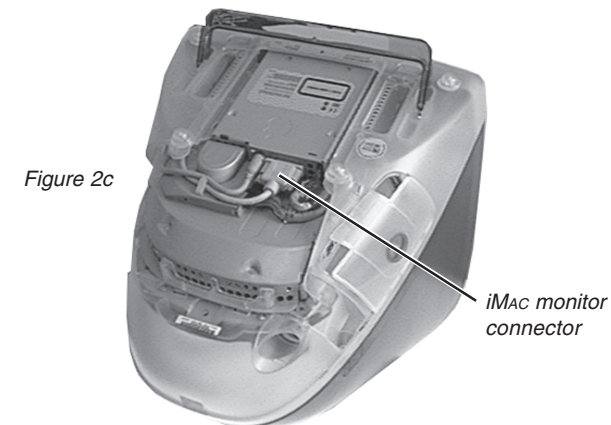

Figure 2c
6. Remove the iMAC monitor cable connector identified in Figure 2c and plug it into the ICWK T 15-pin D sub female connector.